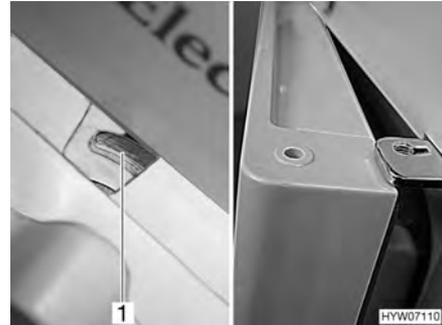

Fig. 161 Refrigerator door/freezer compartment door in ventilation position (Dometic 7 series with separate freezer compartment)
- Push the lock completely to the right. The door latch (Fig. 161,1) keeps the refrigerator door/freezer compartment door in a fixed position. The refrigerator door/freezer compartment door will then stay slightly open (Fig. 161).